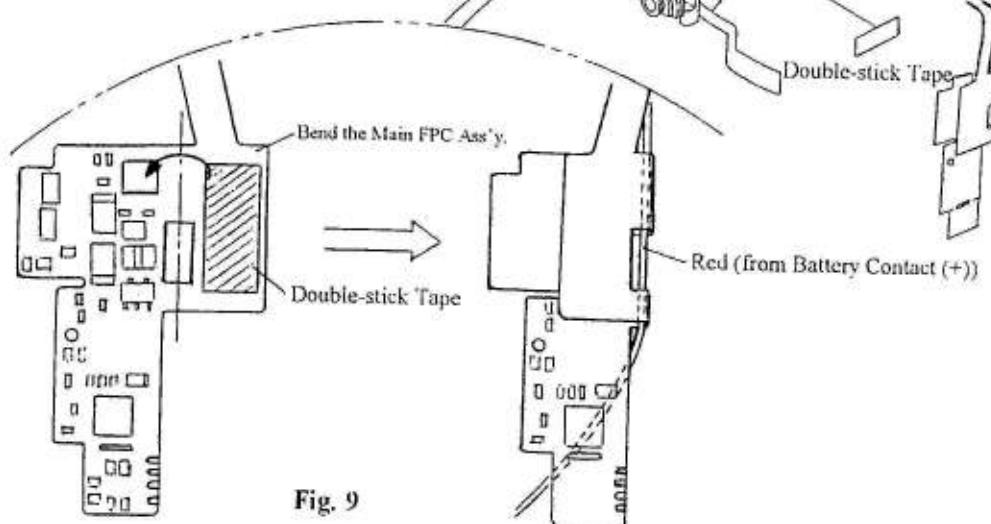

Fig. 9
- d) Dress the front left portion of the Main FPC Ass'y as follows : (See Fig. 9)
- ① Stick double-stick tape on the Main FPC Ass'y and then fold the Main FPC Ass'y.
- ② Stick double-stick tape on the Body and affix the Main FPC Ass'y to the Body.